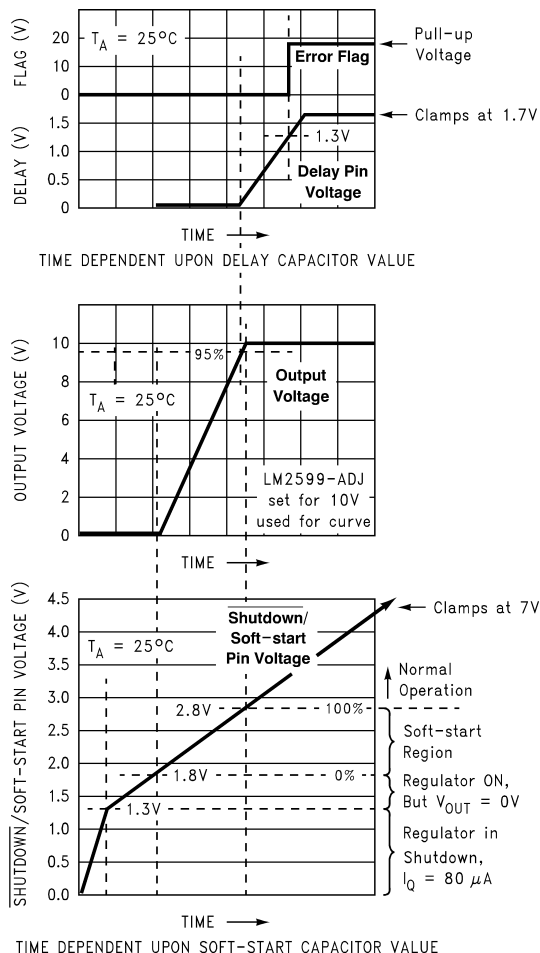

Figure 28. Soft-Start, Delay, Error, Output
The capacitor on this pin provides the regulator with a soft-start feature (slow start-up). When the DC input voltage is first applied to the regulator, or when the Shutdown/Soft-start pin is allowed to go high, a constant current (approximately 5  $\mu$ A) begins charging this capacitor). As the capacitor voltage rises, the regulator goes through four operating regions (see the bottom curve in Figure 28):
3. Soft-start Region: When the  $\overline{SD/SS}$  pin voltage is between 1.8 V and 2.8 V (at 25°C), the regulator is in a soft-start condition. The switch (Pin 2) duty cycle initially starts out very low, with narrow pulses and gradually get wider as the capacitor  $\overline{SD/SS}$  pin ramps up towards 2.8 V. As the duty cycle increases, the output voltage also increases at a controlled ramp up (see the center curve in Figure 28) The input supply current requirement also starts out at a low level for the narrow pulses and ramp up in a controlled manner. This is a very useful feature in some switcher topologies that require large start-up currents (such as the inverting configuration) which can load down the input power supply.
The lower curve shown in Figure 28 shows the soft-start region from 0% to 100%. This is not the duty cycle percentage, but the output voltage percentage. Also, the soft-start voltage range has a negative temperature coefficient associated with it. See the soft-start section in Electrical Characteristics – All Output Voltage Versions.
This capacitor provides delay for the error flag output (see Figure 28 and Figure 29). A capacitor on this pin provides a time delay between the time the regulated output voltage (when it is increasing in value) reaches 95% of the nominal output voltage, and the time the error flag output goes high. A 3- $\mu$ A constant current from the delay pin charges the delay capacitor resulting in a voltage ramp. When this voltage reaches a threshold of approximately 1.3 V, the open-collector error flag output (or power OK) goes high. This signal can be used to indicate that the regulated output has reached the correct voltage and has stabilized.